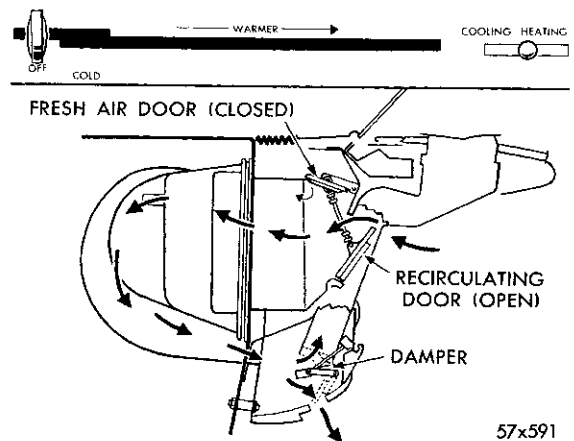
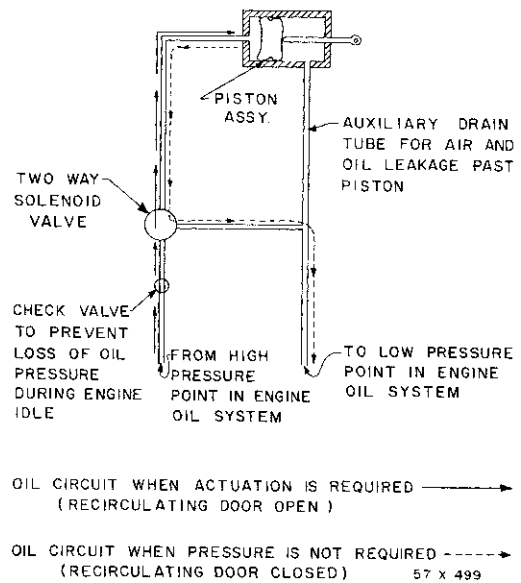
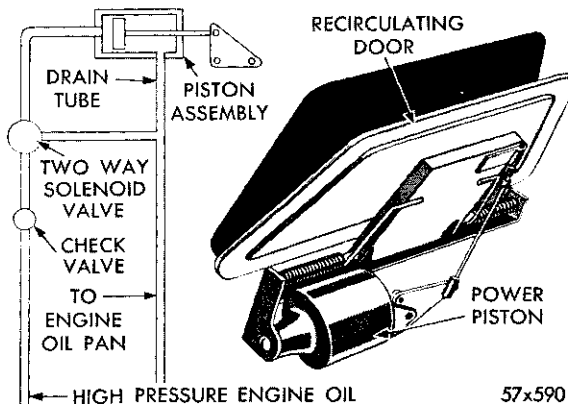

Fig. 6—Recirculating and Fresh Air Door
Fig. 7—Hydraulic Circuit for Power Piston
Fig. 5—Power Piston and Recirculating Door
The main control lever, operating through a cable, operates the water temperature valve and also the fresh air and recirculating door through two electric switches, the solenoid valve, and power piston assembly (Fig. 5). When the solenoid valve is energized, it permits engine oil pressure to act on the power piston, closing the cowl vent fresh air door and opening the recirculating door. Figure 6 shows fresh air and recirculating doors. Figure 7 shows schematic diagram hydraulic circuit for operating the power piston.
d. Moving the main control lever from "Off" to "Cold" or No. 2 position, (Fig. 6) with toggle switch in "Heating" position.